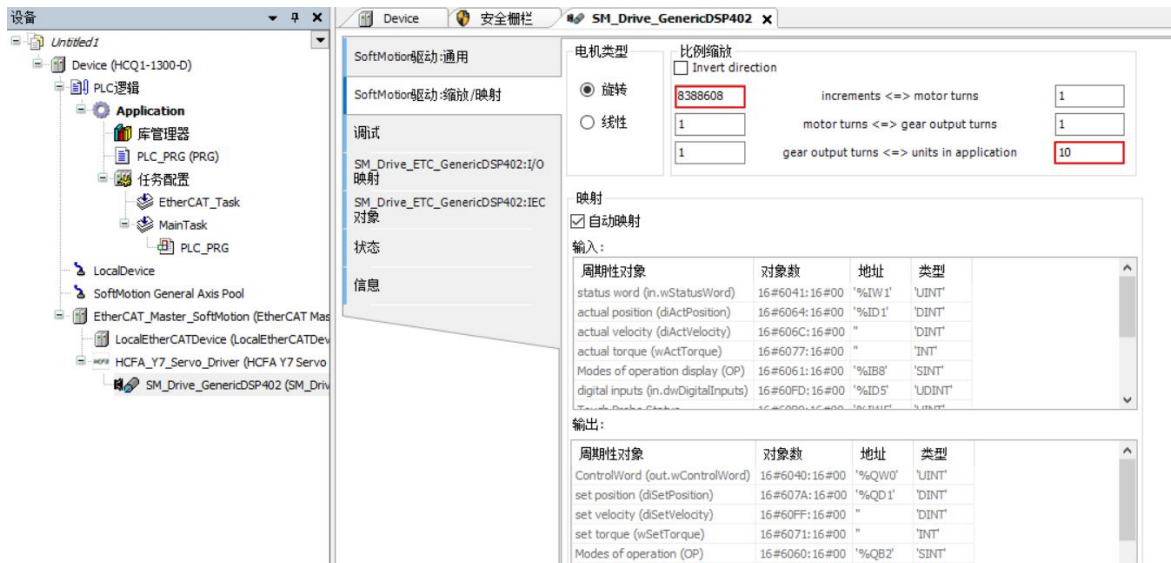

Figure 13-11 DSP402 axis configuration
5. Double-click to open [SM_Drive_GenericDSP402], as shown in Figure 13-11. Enter into [8388608] in increments to indicate that 8388608 pulses per motor revolution, and enter into [10] in units in application, indicating that the terminal load moves 10 for per motor revolution.